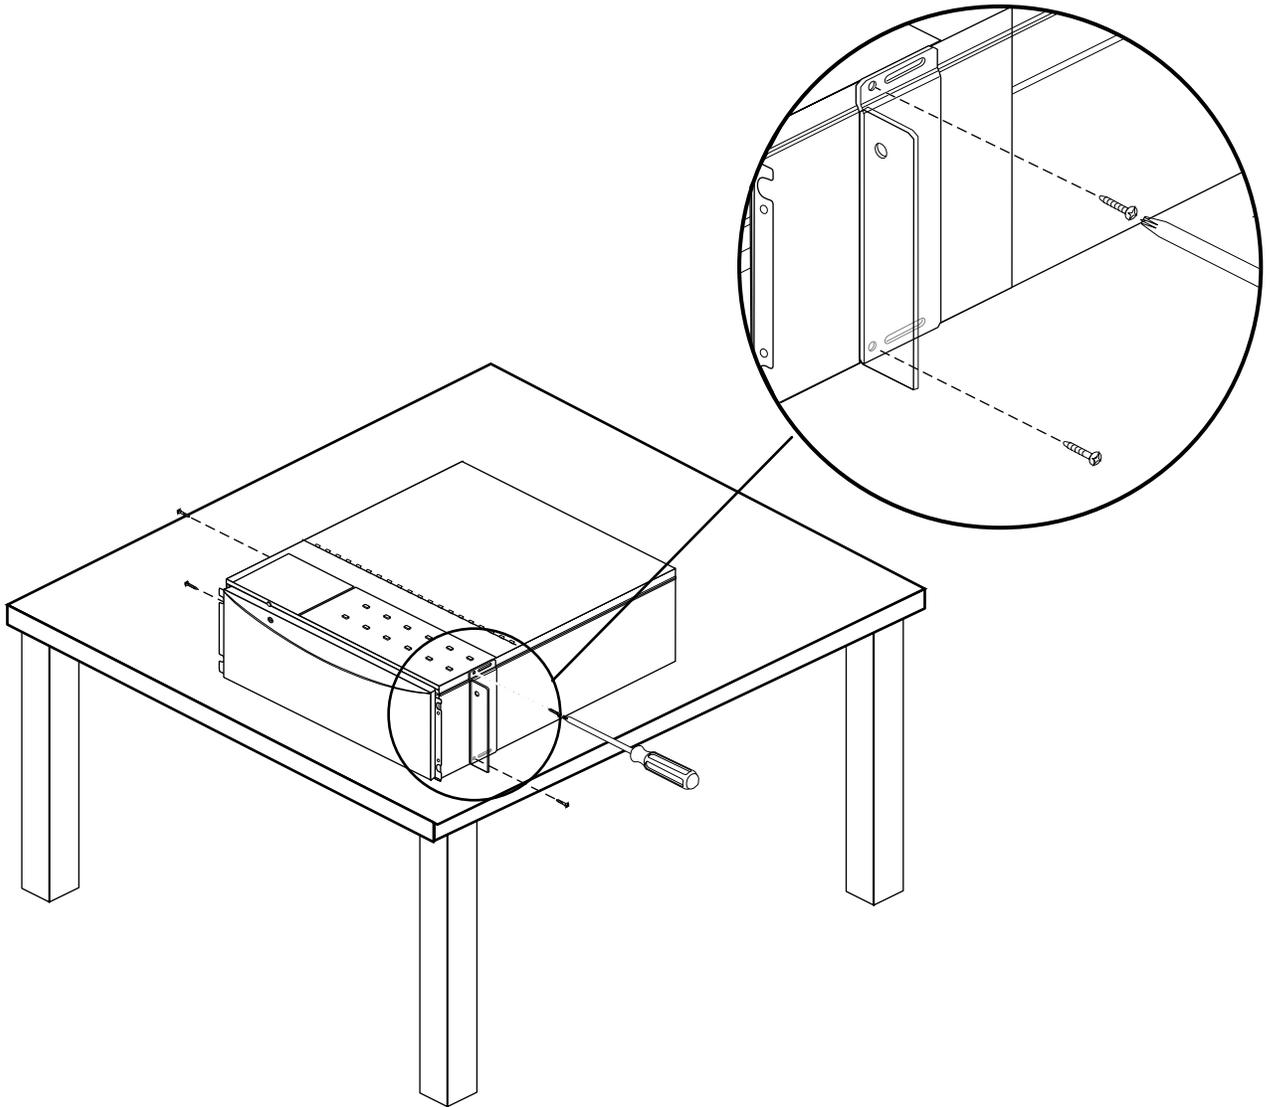

Figure 3-3 Attaching the Rack Mounting Hardware (Ears)
- Using a #2 Phillips screwdriver and the screws provided with the Origin200, fasten each ear to the side of the chassis, behind the front flange, as shown in Figure 3-3. Use two screws for each mounting ear.